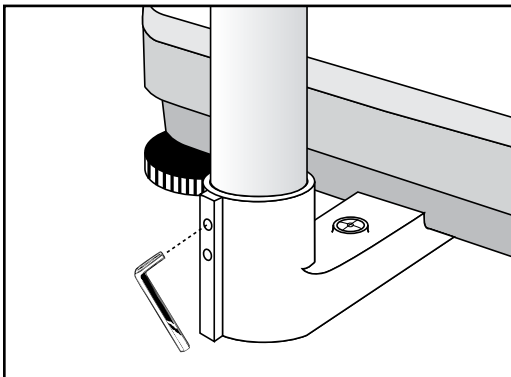

Figure 4
8. Tighten the Base Bracket using the included Allen Wrench. (See Figure 4)